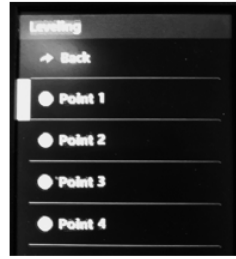

Fig 2
**Step 3:** Do "Prepare>> Bed leveling>> Point 1" on control panel(Fig 2), the nozzle will go to the corners of the bed, loosen the hand nuts under the hotbed (Fig 3) and let the nozzle almost touch the hotbed (Fig 4). Continue to do "Point 2/3/4" until all of the 4 corners has been leveled.